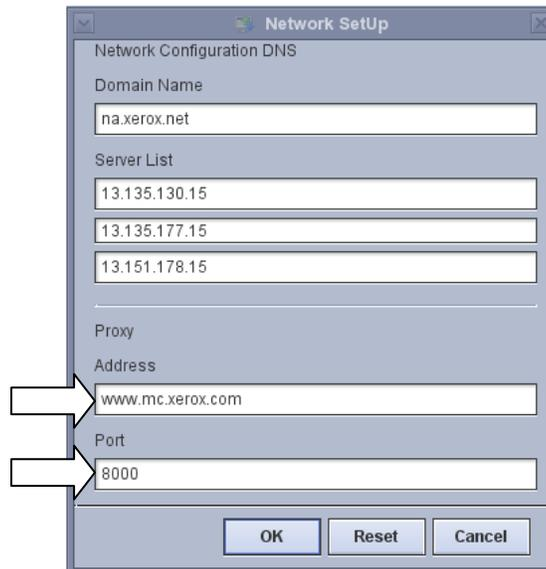

Figure 2.4 – Entering the Proxy Address and Port
- __c. If the customer accesses the internet through a remote proxy server, enter the address and port of the customer's proxy into the Address and Port boxes (Figure 2.4). Refer to Worksheet W-11 Items 6, 2.